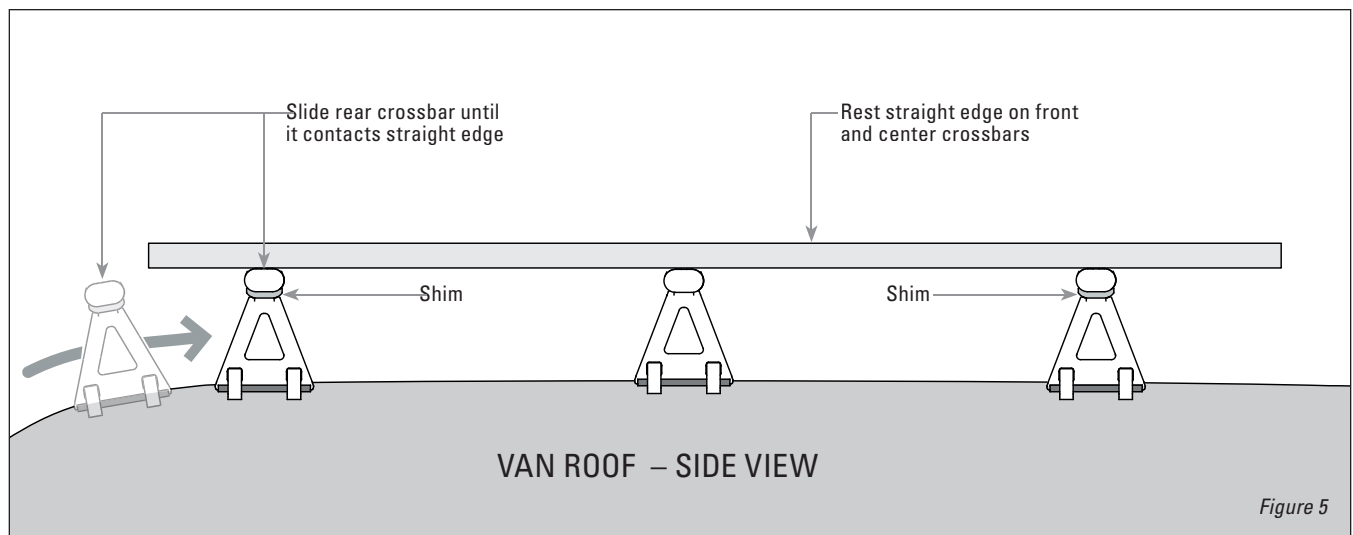

Figure 5
6. Place a straight-edge (a ladder or straight piece of lumber will do) atop crossbars (*Fig. 5*) to check that the racks are all in line. As necessary, slide the rear crossbar assembly to the front or rear until the straight-edge rests flatly and evenly on all three crossbars. Complete installation to rear crossbar assembly in accordance with Van Rack Installation Instructions.